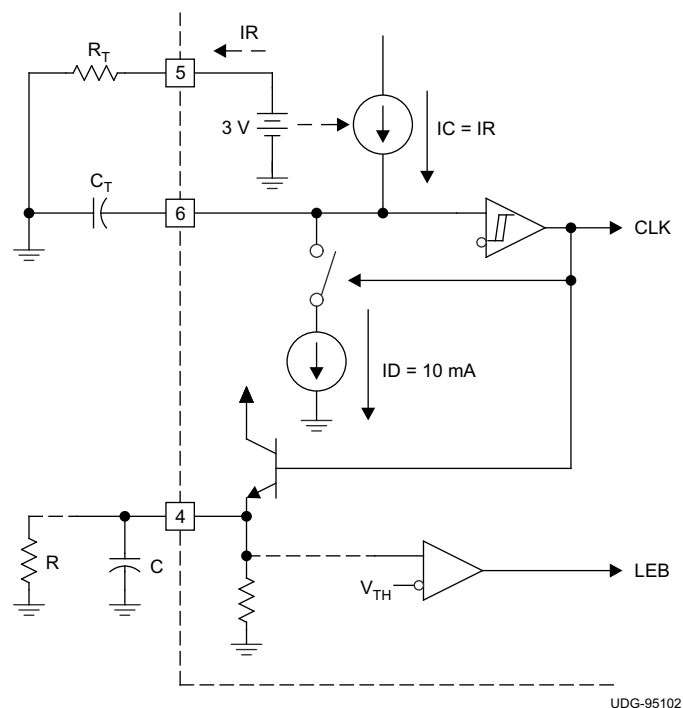
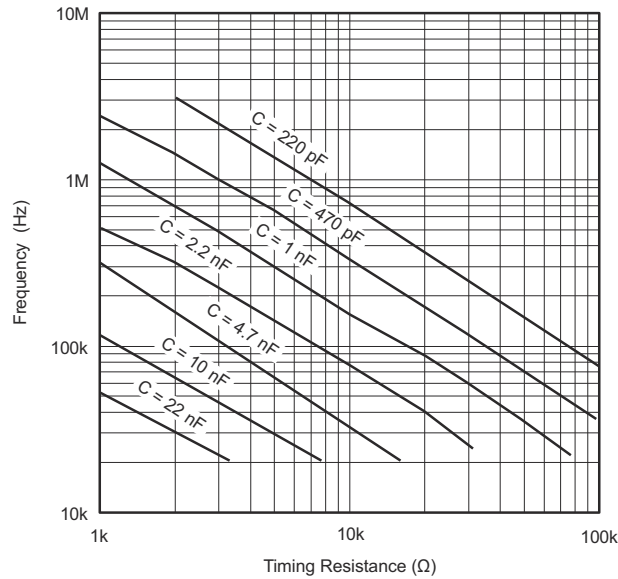
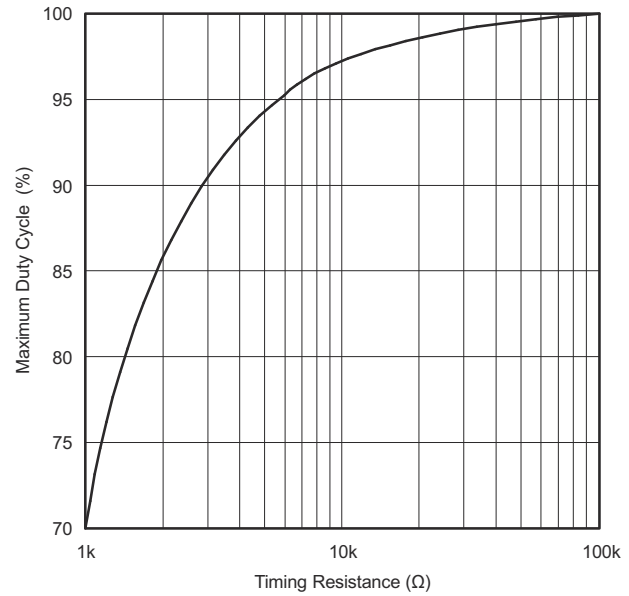

Figure 8-1. Oscillator
Figure 8-2. Oscillator Frequency vs Timing Resistance
Figure 8-3. Maximum Duty Cycle vs Timing Resistance
The oscillator of the UC1825B-SP is a saw tooth (see Figure 8-1). The rising edge is governed by a current controlled by the RT pin and value of capacitance at the CT pin (C_{CT}). The falling edge of the sawtooth sets dead time for the outputs. Selection of RT must be done first, based on desired maximum duty cycle (see Figure 8-3). CT can then be chosen based on the desired frequency (RT) and D_{MAX} (see Figure 8-2). Equation 1 shows the design equations.